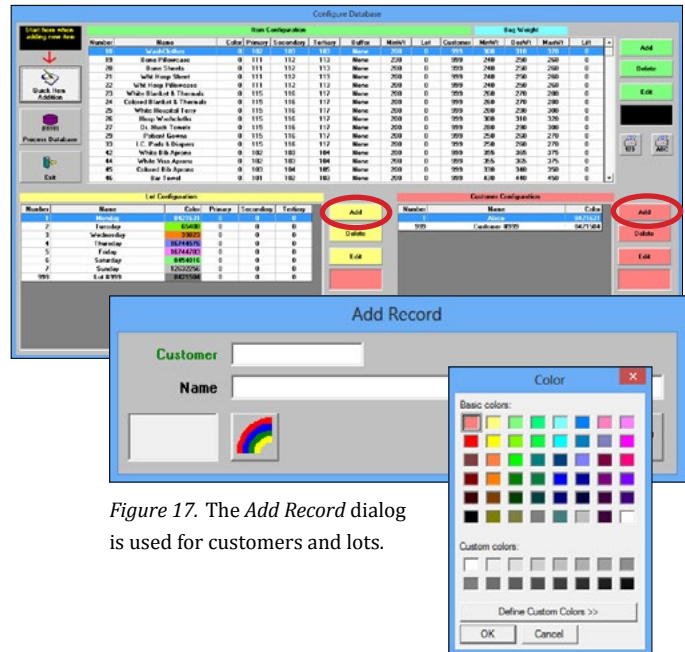

Figure 17. The Add Record dialog is used for customers and lots.
3. Enter a lot or customer **Name** (see Figure 17).